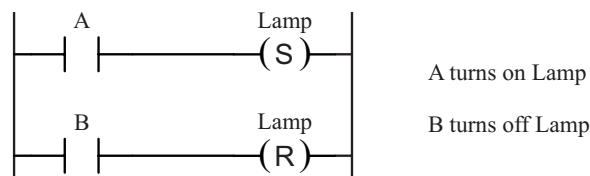

Figure 2.8. Set and reset coil example.
2. The set and reset coils are used in conjunction with each other. Figure 2.8 is a short example using these two coils in conjunction to control a lamp.